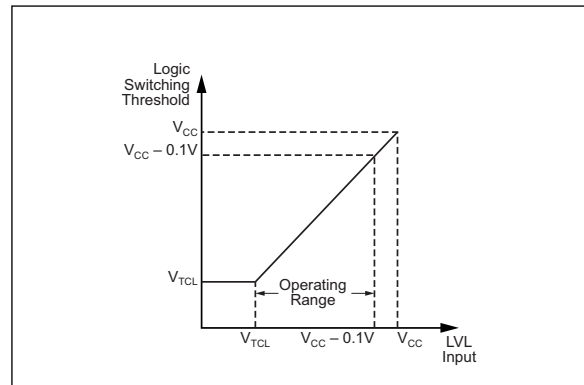
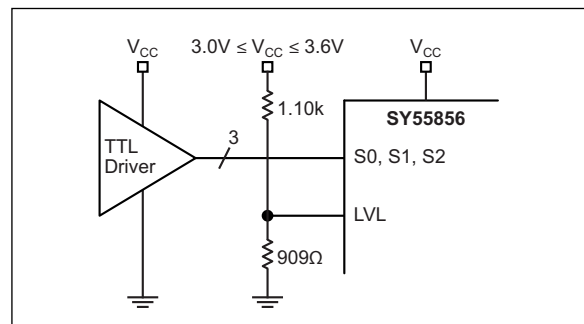

**FIGURE 3-1:** Hard Wiring a Logic "1".
**FIGURE 3-2:** Hard Wiring Logic "0".
**Note:** For Figure 3-1 & Figure 3-2, IN is either the DATA\_IN or the CLK\_IN input. /IN is either the /DATA\_IN or /CLK\_IN input.